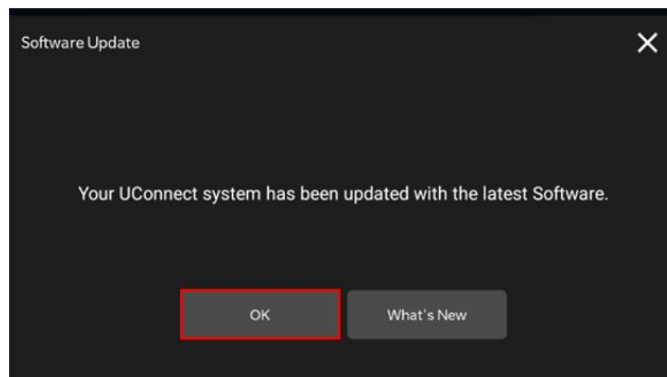

Fig. 5
19. Press "OK" to continue Fig. 5.